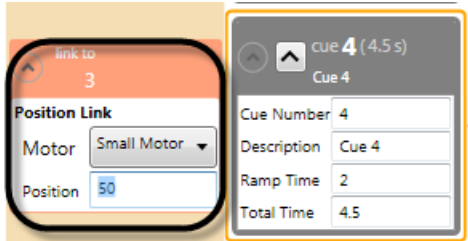

Figure 161
3. The new link will appear in the left margin next to the **Child Cue**. Select the **Motor** from the **Parent Cue** and enter a position that will trigger the link (Figure 161).